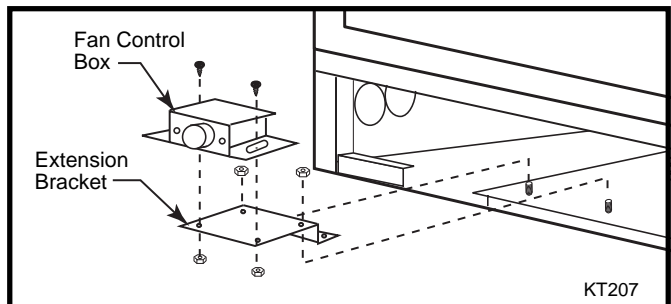

Fig. 61 Attach the control box to the bracket and install bracket into the cabinet.
- b. Attach the Fan Speed Control Box to the Bracket (Fig. 61) and install the Bracket into the Cabinet.